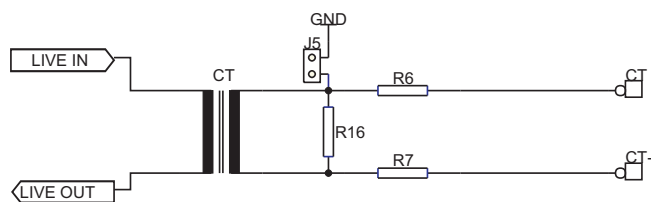
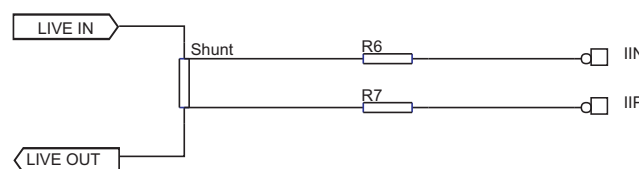

Figure 4: Current sensing using a CT
Figure 5: Current sensing using a shunt
Resistors R6 and R7 (figure 4 and figure 5) define the current at the current sense inputs of the SA2102D. The PM2102DPD module uses a 625μΩ shunt. At $I_{m_{\text{max}}}$ (80A) the voltage drop across the shunt will be 50mV. To ensure proper current sensing it is advisable to use a shunt that will give a voltage drop of at least 20mV at $I_{m_{\text{max}}}$. The resistor values are calculated for an input of 16μA_{RM} on the current sense inputs at $I_{m_{\text{max}}}$ (see Figure 5). The design equation is as follows:
Provision is made for the use of either a Current Transformer (CT) or a Shunt on the application module. The module is by default setup for a shunt, which must be removed if a CT is chosen as the sensing device. When using a CT, the terminating resistor (R16), phase compensation capacitor (C7) and jumper (J5) must be inserted. The jumper references one side of the CT to ground for sensing. The current sensing resistors (R6 and R7) must be changed according to the equation stated below (see Figure 4):